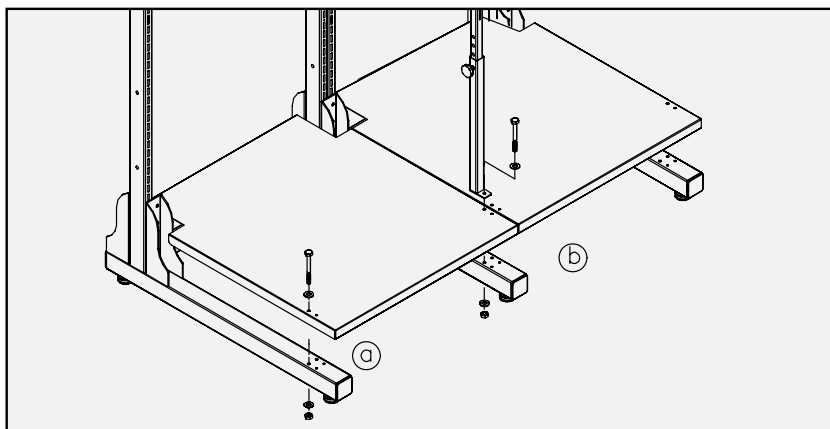

Fig. 11
- A. Attach Leg Mounted Floor Shelf to Leg using screw # 1, nut and washers (Fig. 11-Detail a). Note when adding a Telescopic Support Upright, use screw # 2, nut and washers (Fig. 11-Detail b).